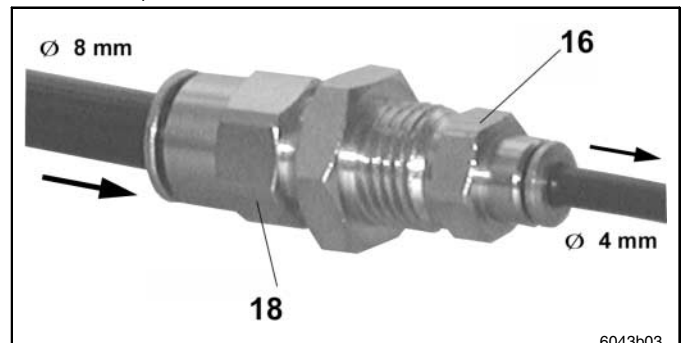

Fig. 4 Filling adapter
- Connect the filling adapter (fig. 4) to the feedline,